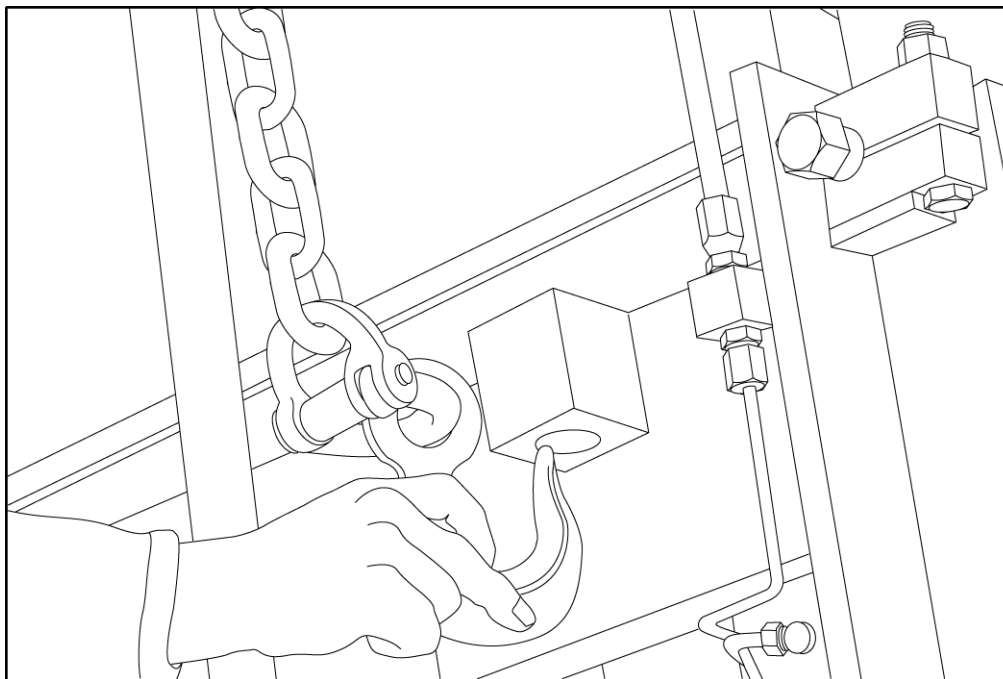

Figure 5.9 ATTACHING STRIPPER HEAD FRAME WITH SAFETY CHAIN
- 5.4.2 Jog the machine until the stripper head is high enough to hook up safety chain but before the feedbox starts forward (figure 5.9).
- 5.4.4 Hook safety chain to stripper head frame (see figure 5.9).